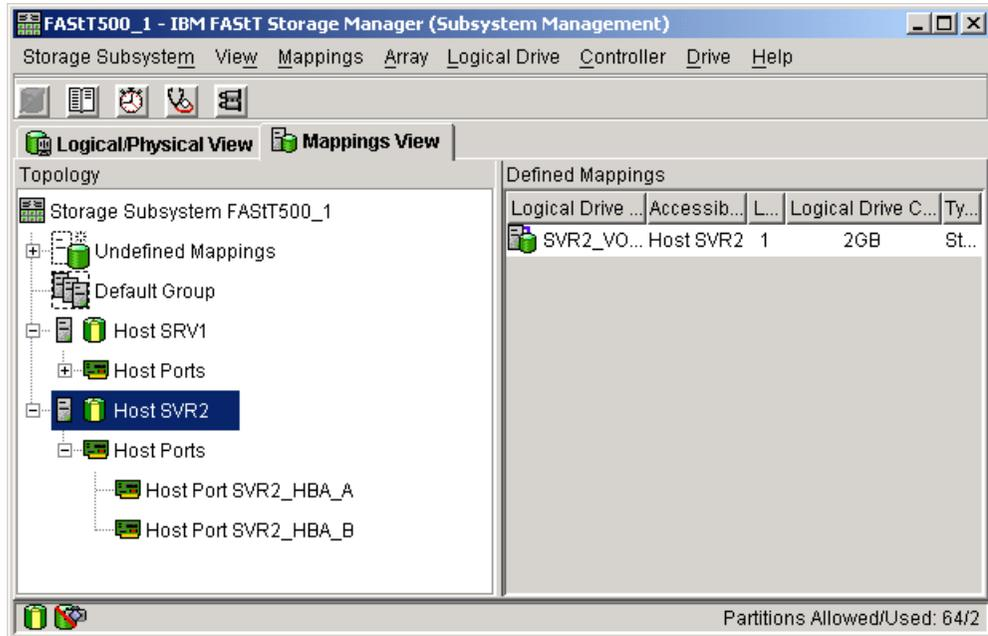

Figure A-8 Configured Linux server with 2 GB drive
12. Map this logical drive to the Host SVR2 group. Once this is complete, the new logical drive is accessible by Host SVR2, as shown in Figure A-8: